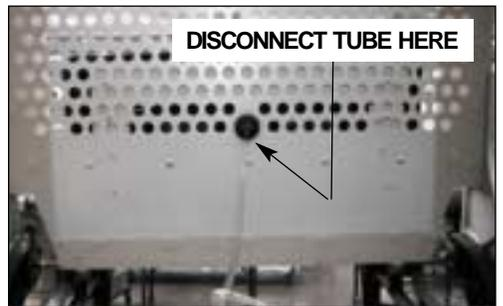

FIG. 308:
- (1) Disconnect lumbar rubber tube from the rear side of the backrest (see fig. 308).